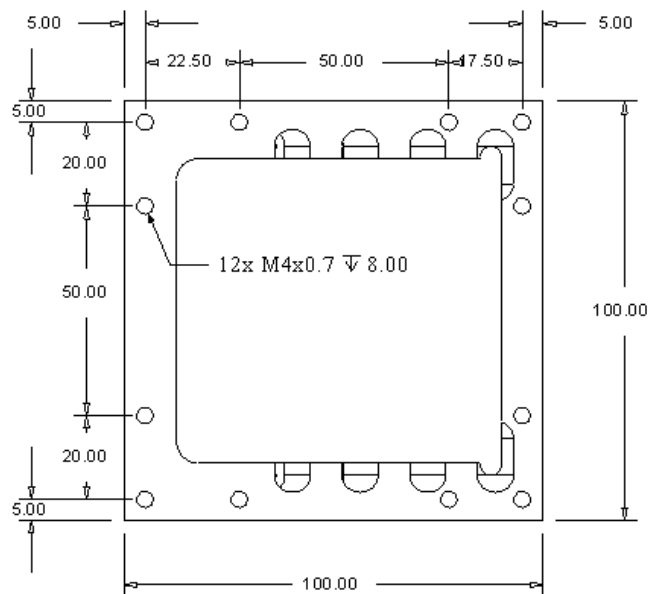

Fig.5: Detailed view of the plateau
The plateau has twelve (12) threaded M4 holes. See figure 5.